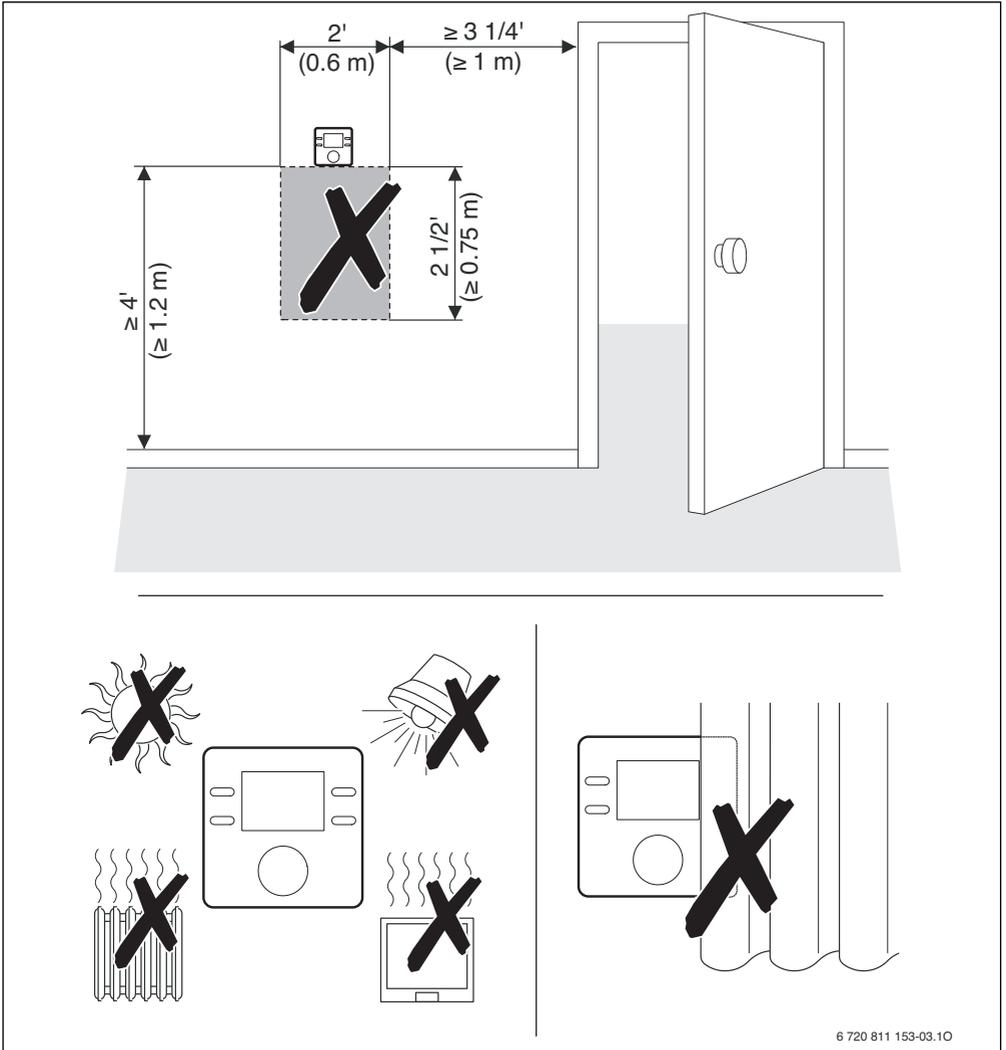

Fig. 5 Installation location in the reference room
- The installation location (= reference room) must be suitable for controlling the zone (→ Fig. 5, Page 8).